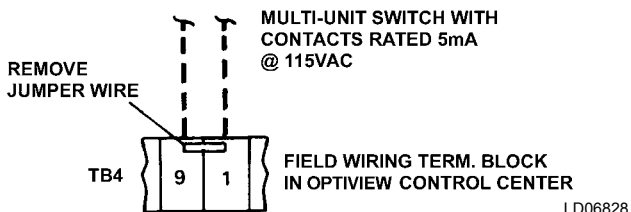

FIGURE 8 - MULTI-UNIT SEQUENCE
- Multi-unit Sequence – See *Figure 8 on page 9*.